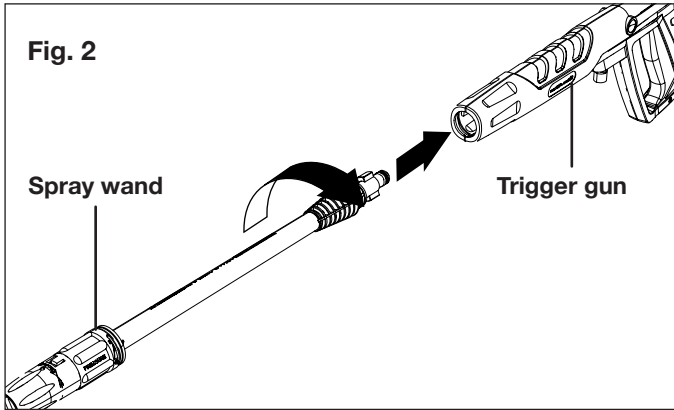

Fig. 2
1. Fit the spray wand into the gun and rotate it until the two parts are completely locked (Fig. 2).